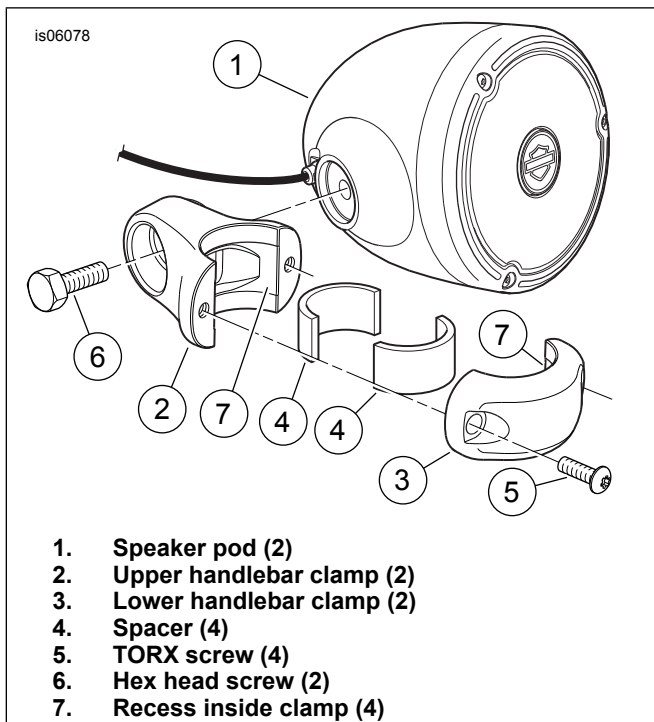

Figure 3. Handlebar-Mounted Speaker Installation
1. See Figure 3. Obtain the following items from the kit:
- speaker pod assembly (1)
- two upper handlebar clamps (2)
- two lower handlebar clamps (3)
- four spacers (4)
- four 1/4-20 x 19 mm (0.75 in) long TORX screws (5)
- two 3/8-16 x 19 mm (0.75 in) long hex head screws (6)